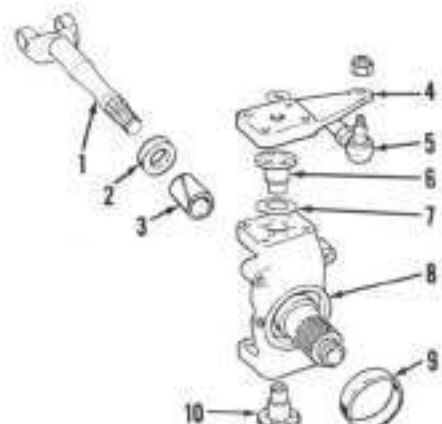

Fig. 8—Exploded view of David Brown front drive stub axle showing component parts and their relative positions.
**10. FINAL DRIVE AND STUB AXLE.** Left and right final drive removal procedure is similar. To remove, raise and support side to be serviced and remove tire and wheel. Rotate hub so drain plug is at bottom and drain fluid. Remove end plate (12—Fig. 7) and use pry bars to pull sun gear (15) and shaft (1—Fig. 8) out approximately 5 mm ( $\frac{3}{16}$  inch).
Remove steering lever (4—Fig. 8) and bolts retaining upper and lower bearing pins (6 and 10). Remove bearing pins
Remove seal (2—Fig. 8) from inside stub axle (8). Using a suitable bushing driver, drive bushing (3) out oil seal end of stub axle. Install new bushing from seal end until it seats in stub axle. Install new oil seal with lip of seal entering bore first.
To set bearing pin preload, reassemble unit minus shims (7—Fig. 8). Tighten lower bearing pin mounting bolts to 68 N·m (50 ft.-lbs.) torque and upper bearing pin mounting bolts to 20 N·m (15 ft.-lbs.) torque. Push stub axle up tight against bottom of axle housing and use a feeler gage to measure gap between upper bearing pin flange and stub axle. See Fig. 9. Remove upper bearing pin, then assemble shims so total thickness is 0.281 mm (0.011 inch) less than feeler gage measurement. This will correctly preload bearings to 0.10-0.15 mm (0.004-0.006 inch) when full load is on axle. Tighten upper bearing pin bolts to 68 N·m (50 ft.-lbs.) torque. Refer to paragraph 11 to set stub axle bearing preload.